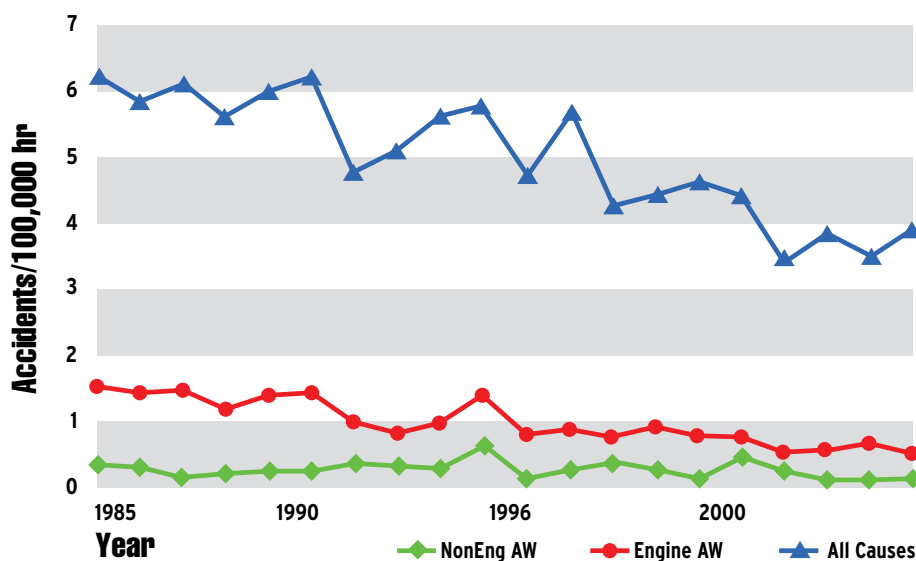

Figure 5 – Bell Civil Turbines 20-year History Worldwide (1985-2004)
the engine manufacturer certify their engines under Part 33 and are responsible to the FAA to keep the fielded engines to the same certification level. Similarly, the helicopter manufacturer certifies his helicopter to either Part 27 or Part 29 and is responsible for those parts. Basically, the helicopter manufacturer is responsible for the entire helicopter except for the engines. Other companies may get Supplement Type Certificates (STC) and are responsible to the FAA for their parts/systems, which modify an aircraft. STCs vary and are not on all models. Since part failures are very rare events and there are difficulties in dealing with STC variability, all airworthiness (AW) failures are considered as either Engine AW or Non-Engine AW to simplify accident analyses. For the Bell civil turbine helicopter fleet worldwide, the annual accident rates for the last 20 years (1985–2004) are shown in Fig. 5. This accounts for 50 million flight hours and includes all of Bell’s civil certificated models with a turbine engine. It does not include U.S. military models, military surplus on civil registries, Model 47s, or any helicopter produced by a licensee (e.g., Agusta). The annual accident rate for all causes is coming down. Note the accident rate of the lowest line, due to non-engine airworthiness (Bell’s responsibility for the aircraft certificated to Part 27/29 requirements), is quite low, with sporadic increases due to a helicopter part (other than engine) failure. Accident investigation would
The distance to the next line up on the figure is the accident rate due to engine failure/malfunctions, which are the engine manufacturers' (Part 33) responsibility. The engine manufacturers continue their effort to decrease their engine caused accident rates. Some of these accidents attributed to the engine are "claimed power loss," but the engine runs fine during the accident investigation. They are counted as an engine airworthiness failure, since it cannot be proved what actually happened. These "claimed power loss" accidents will continue to occur until recorders can be used to document what really happened. Thus the accident rate for all airworthiness failures (Engine and Non-Engine) is the red line on the Fig. 5, which is quite low—0.53/100,000 hours for 2004. Airworthiness failures are minor contributors to the overall accident rate.
The distance between the center red line (all airworthiness) and the top blue line is the human and unknown causes. Primarily, the human cause is the pilot. Thus the total accident rate is the blue line or about 3.9/100,000 hours in 2004. This chart also shows that the total elimination of all airworthiness failures could not reduce the overall accident rate by more than about 15.7% for the last 5 years). Said differently, 84.3% of the accidents would still occur if an aircraft or engine never failed. We must address the human and unknown side to significantly reduce accidents. Bell, and others, have made major efforts to address the human error accident causes with success in some areas. The reason for the overall Bell accident rate reduction of Fig. 5 is due to many efforts by different people, including the Bell training pilots at Bell's Customer Training Academy. Documenting and then understanding all of the various human errors and what really happened in the cockpit is the challenge to make significant improvements in safety. Bell helicopters (civil models and military surplus on civil registries) accounts